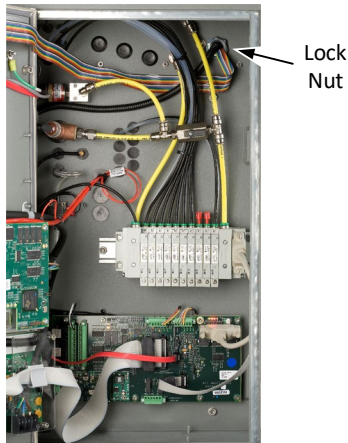

Fig. 6.7. EPC Cable Lock Nut
10. On the wall inside the left side of the oven, remove the lock nut on the pipe nipple which retains the EPC Panel cables (see Figure 6.7, which shows Class C oven).
3. Insert the new valve into its position in the enclosure. The wires coming out of the coil should face the Control PCB (See Figure 6.7).